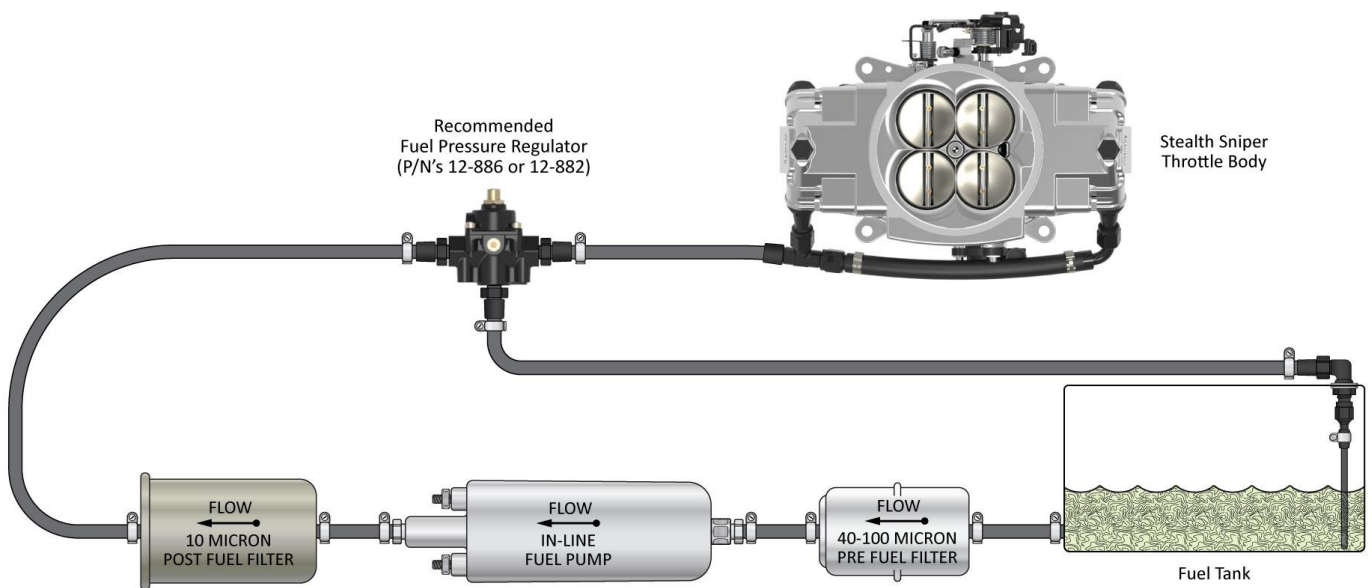

Figure 5
6. It is mandatory to use an external fuel pressure regulator and to feed both front and rear fuel injector covers. Holley **12-848** or **12-851** are the recommended bypass fuel pressure regulators based on how much HP the application makes. Reference Figure 5 for plumbing diagrams and recommended fuel system components.